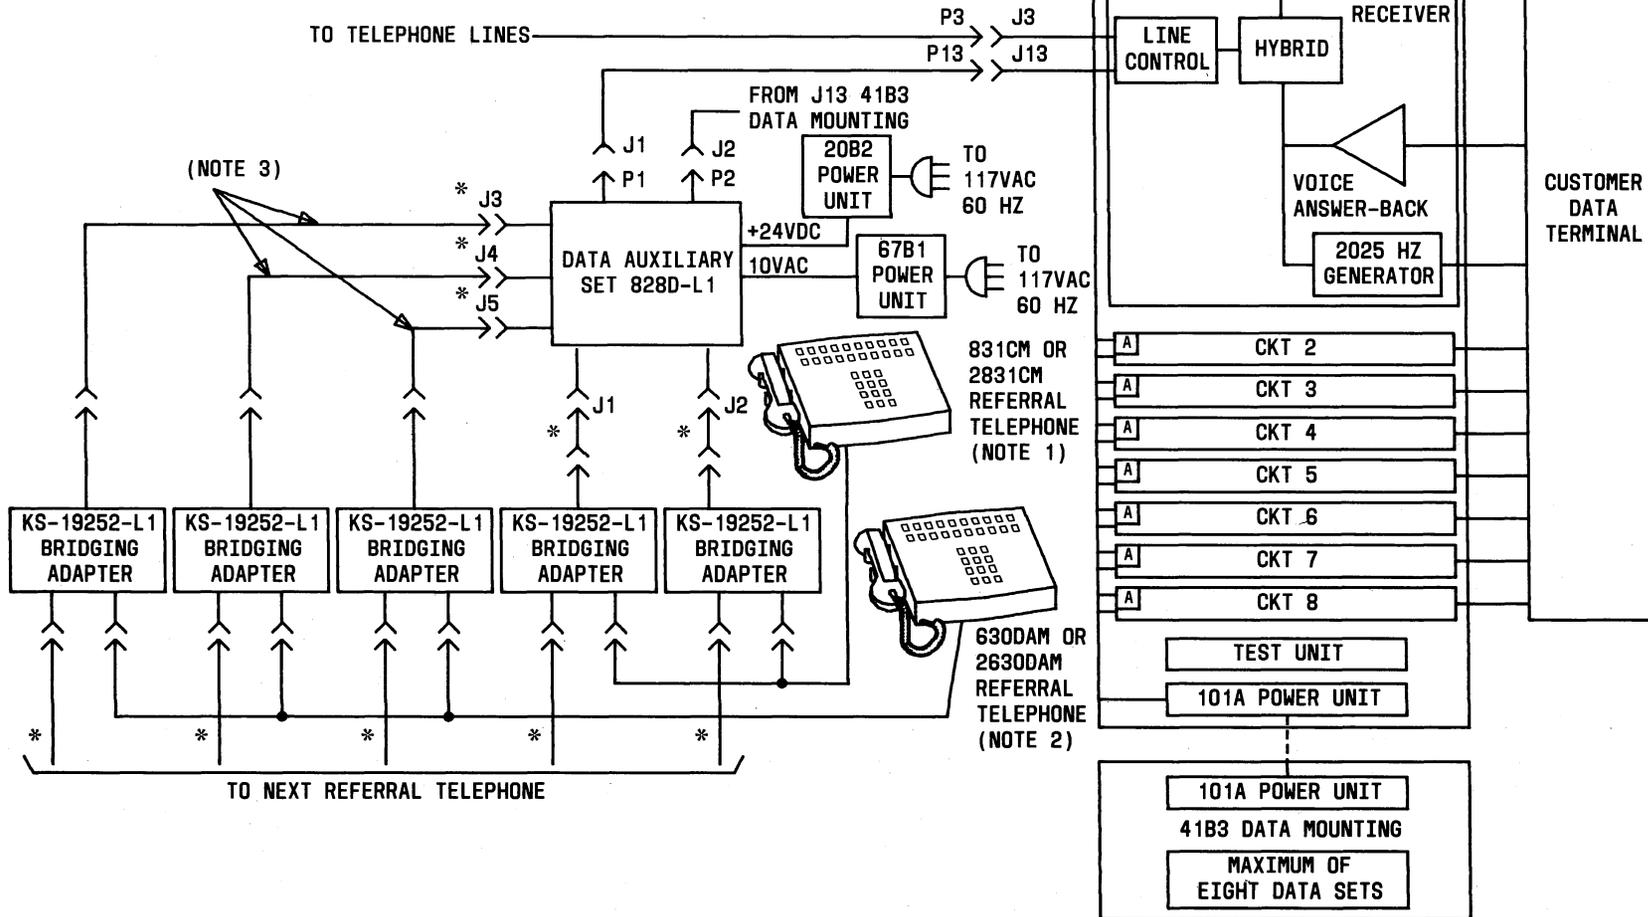

Fig. 6—407AR Multiple Data Station Arrangement Functional Block Diagram—Typical
3.01 The 407AR or 407BR multiple data station provides a maximum of eight interface connections between the data sets and customer-provided terminals per data mounting. Two line facility interface connectors per data mounting are also provided. Each of the line facility connectors provide the necessary interface to connect four data sets to the telephone network. The telephone network connections are made as shown in Fig. 6.
3.18 The 41-type data mounting is a multiple apparatus housing which will accommodate a maximum of eight data sets. Connectors J3 and J4 on the 41-type data mounting provide interconnection from the eight mounting slots to the telephone network per Fig. 6. The 908J1 connectors (eight per mounting) accept data set 407AR or 407BR.